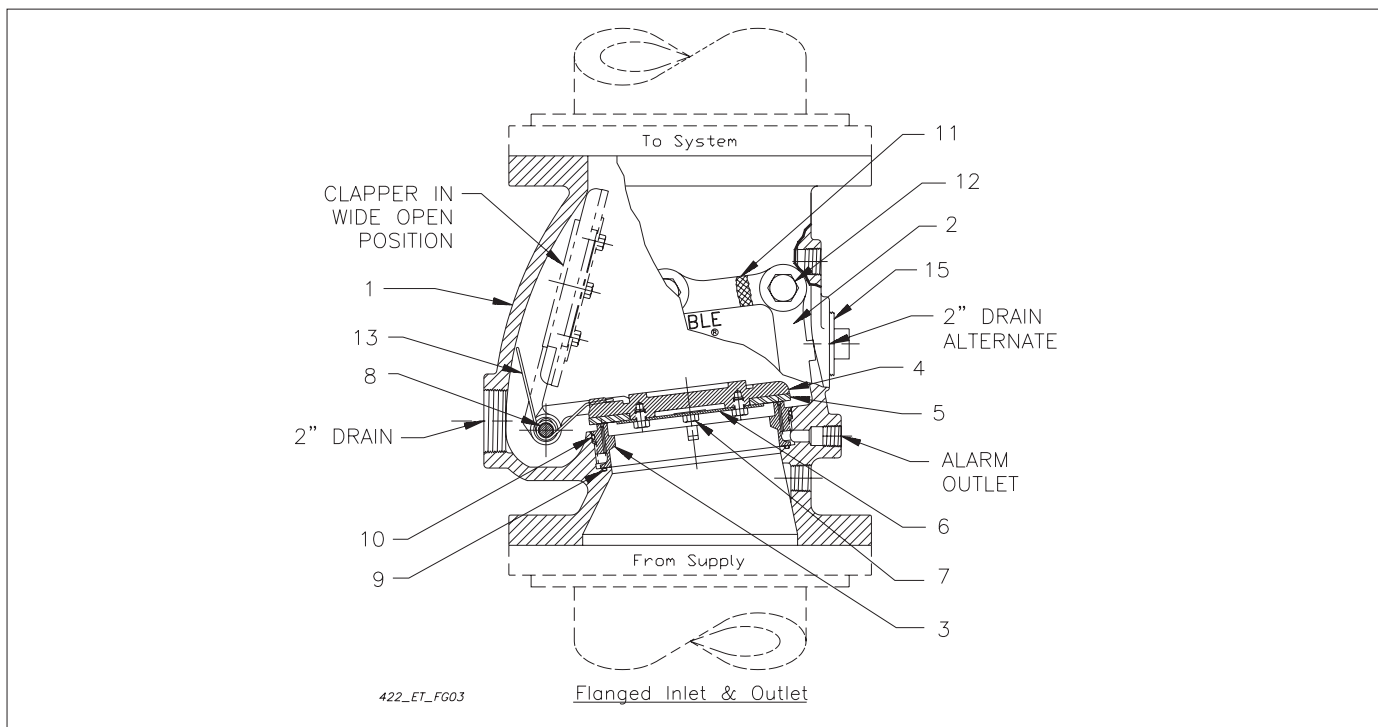

Figure 3
The normal positions of the Model E Alarm Valve parts are shown in (Fig. 3).
Alarm Valve (Ref. Fig.3)
2. Remove "O" Rings, items 9 and 10, (Fig. 3) Thoroughly clean "O" ring grooves and sealing surfaces. Inspect for damage or foreign material.
False alarms are generally caused by pressure surges in the water supply and can occur if the system loses its effective excess pressure (see Setting into Operation). A visual indication of this condition is given by similar readings on the system and supply pressure gauges. One or more of the following will contribute to this loss of system pressure: leaking drain valves, leaking at the Alarm Valve Seat (3) (Fig. 3) leaking between the Clapper (4) and the Facing (5) or leaking at the bypass check valve (Fig. 2).